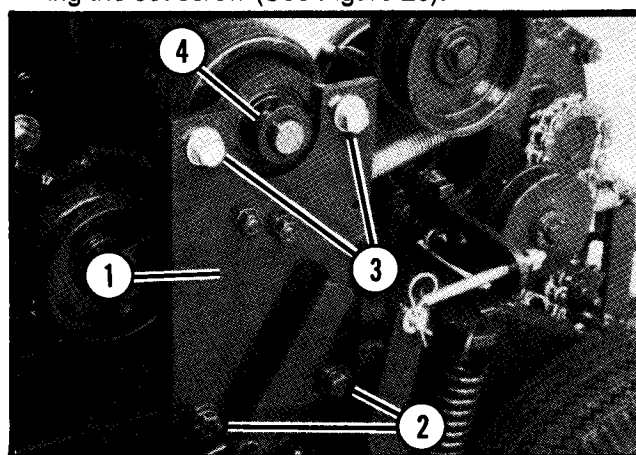

Figure 20. Mounting Plate And Coupler Bearing
6. Adjust the position of the mounting plate so that it is perpendicular to the chassis and the bearing mounted to the plate is centered on the coupler shaft. Secure the plate to the chassis by tightening the two mounting screws at the bottom of the plate (See Figure 20).
7. Adjust the pillow block on the plate so that it is centered on the shaft with no top or bottom load on the shaft. Tighten the pillow block mounting hardware (See Figure 20).
8. Secure the locking collar against the bearing by tapping it counterclockwise approx 1/4 turn and tightening the set screw (See Figure 20).